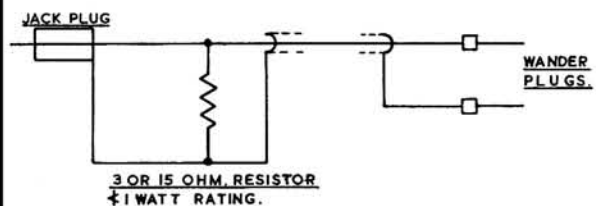

FIG. 2
Even if you do not have such a loudspeaker to use, you may well have a radio or radiogram through which to playback your machine. The results may not be an improvement, but they will probably be different. The same output connection can be used, but in this case the external loudspeaker should be replaced by a resistor (whose value matches the required impedance), and connection also made to the P.U. terminals of the radio. Fig. 2 shows how to do this. As the resistor will have to absorb the power output of the recorder it should be of at least 1 Watt rating. This simple form of impedance transfer can be used because we have plenty of power available and need not be concerned at the very poor efficiency.
*The bias oscillator unit photographed here, with input and output sockets ready soldered, has two main functions (see also fig. 2 on page 77). Firstly, it produces oscillations at a supersonic frequency, and mixes this with the signal—derived, say from a radio set or gramophone amplifier—in the proportions which give the best distortion-free recording. Secondly, it introduces the necessary high frequency pre-emphasis to allow for losses inherent in the tape head and the tape itself. It is worth repeating here, that the results of all the experiments described in this series depend to a greater or lesser extent on using the microphone/ea piece transducer and the record|playback head recommended.*